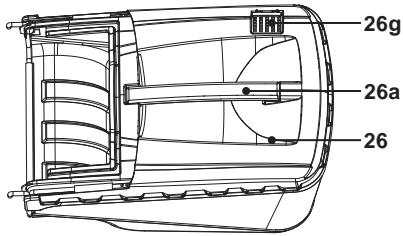

Fig. 17
1. When the hatch (26g) is opened, the grass catcher (26) has sufficient volume left to collect grass (Fig. 17).